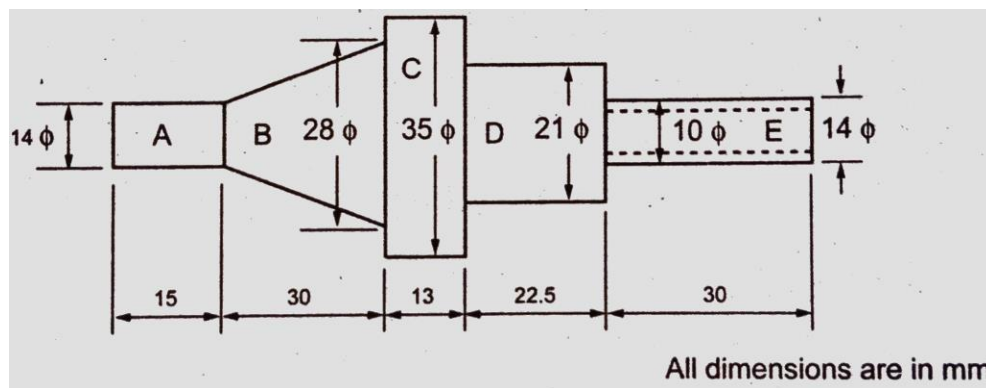

Fig 2
15. Estimate the weight of material required for manufacturing 220 pieces of shaft as shown in Fig.2. The shafts are made of mild steel which weighs 7.87 gm/cm3 and costs Rs.100 per kg. Also calculate the material cost for 220 such shafts.